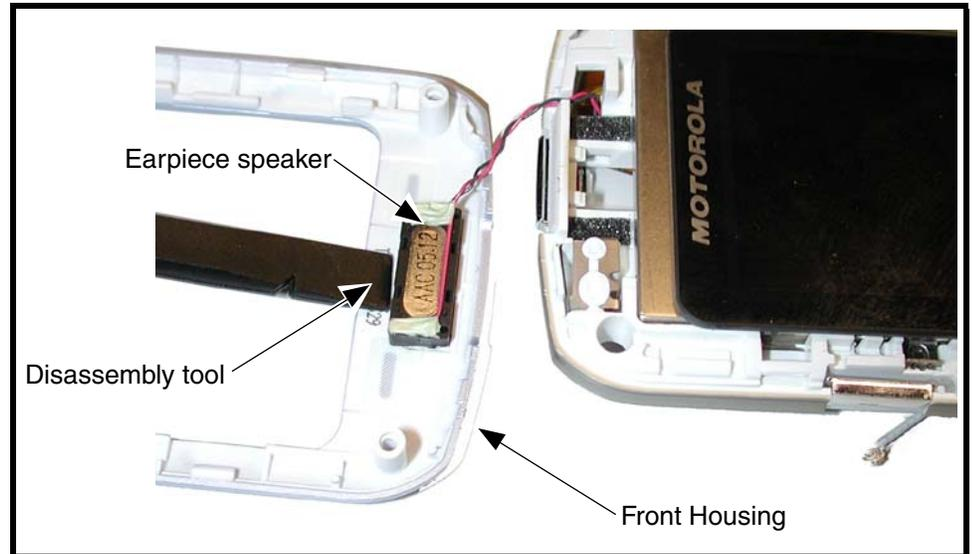

Figure 19. Removing the Earpiece Speaker from the Front Housing
5. Use the disassembly tool to separate the earpiece speaker from the front housing (see Figure 19).